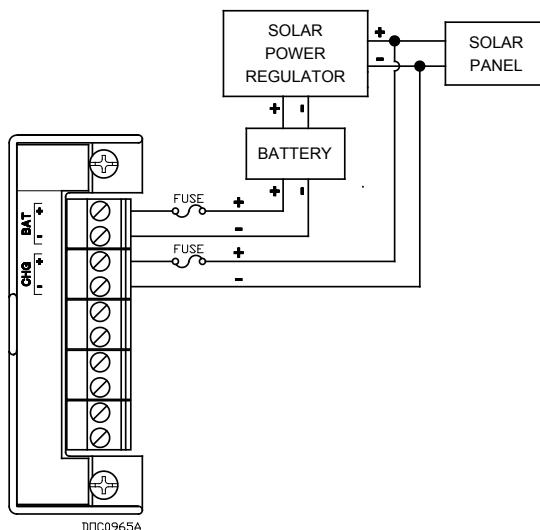

Figure 6. 12 Vdc Power Supply and CHG+ / CHG- Wiring
- If you are monitoring an external charge voltage (12-V dc Power Input Module only), wire the CHG+ and CHG- terminal block connector. Refer to *Figure 6*.